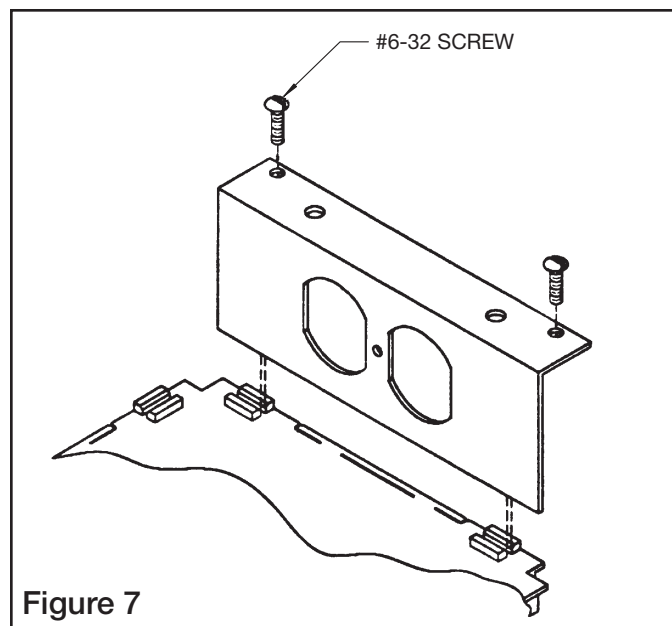

Figure 7
11. Install the device panels by locating the bottom edge in the locking tabs on the non-metallic tunnel and securing the top with the (2) #6-32 screws furnished with each device plate. See figure 7.
12. Complete the activation with the 665-CST cover using the (4) #8-32 screws furnished with each cover.